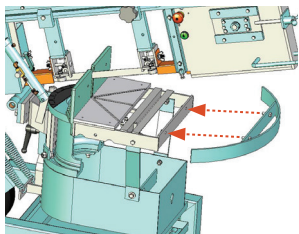

Fig. 3 - Attach Shut-off Rail
5. Remount/install shut-off rail (See Fig. 3).